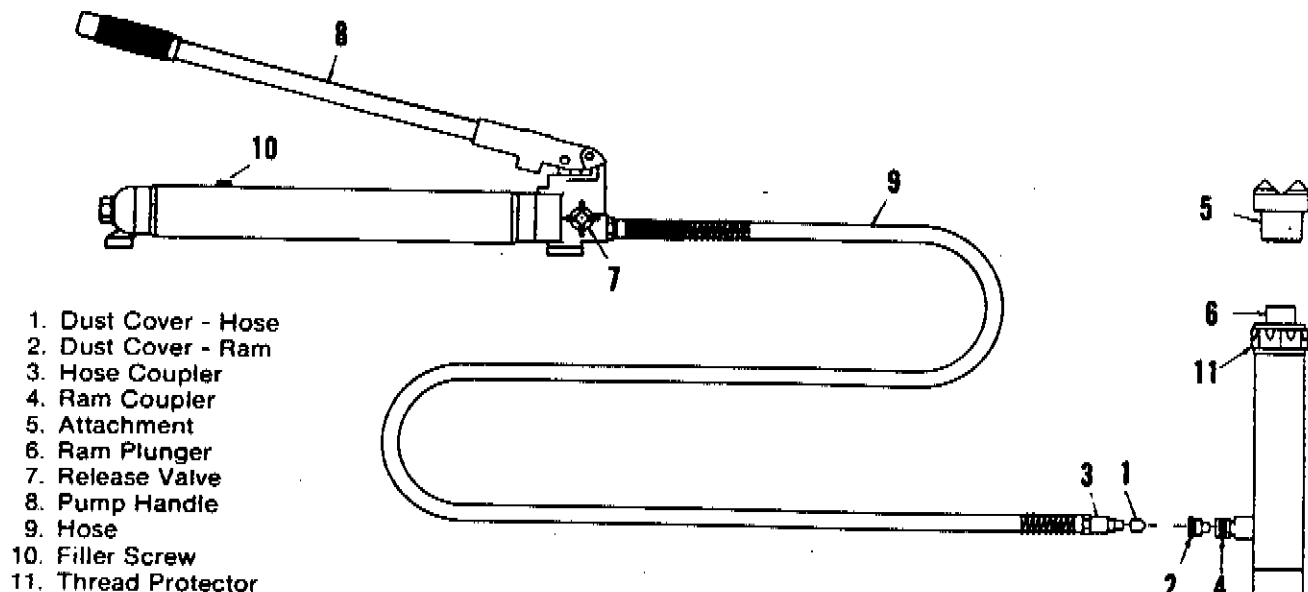

FIGURE 1
BASIC PRINCIPLES OF OPERATION (See Figure 1)
3. If hydraulic fluid is required, refill at filler screw (Figure 1, item 10) only with genuine Blackhawk jack oil. Total Oil Capacity: 25 fluid ounces. Pump Useable Oil: 22 fluid ounces.